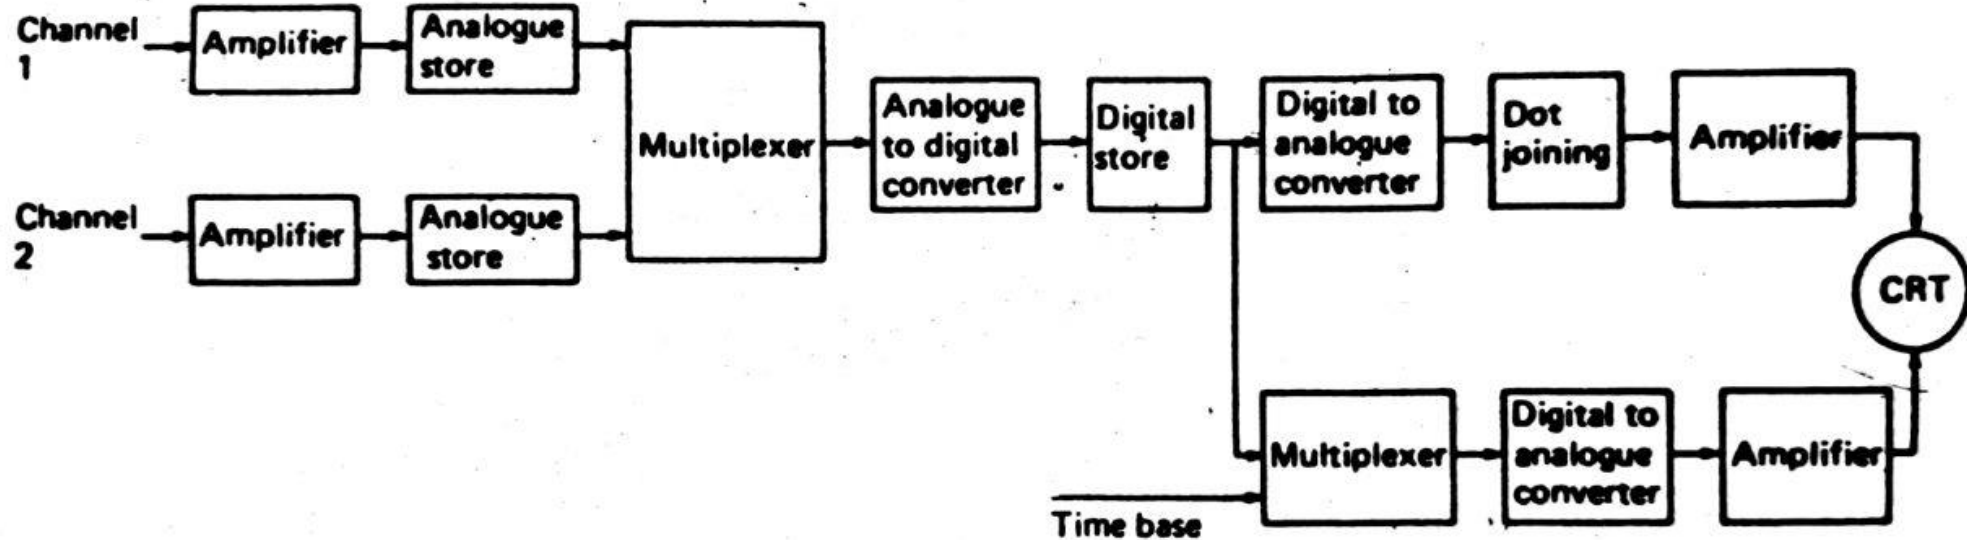

Figure 33
- One method of avoiding the need of fast & expensive digitizer is to use analog storage as shown in fig. 33 below. The signal stored in analog storage can be sampled at a slower rate.